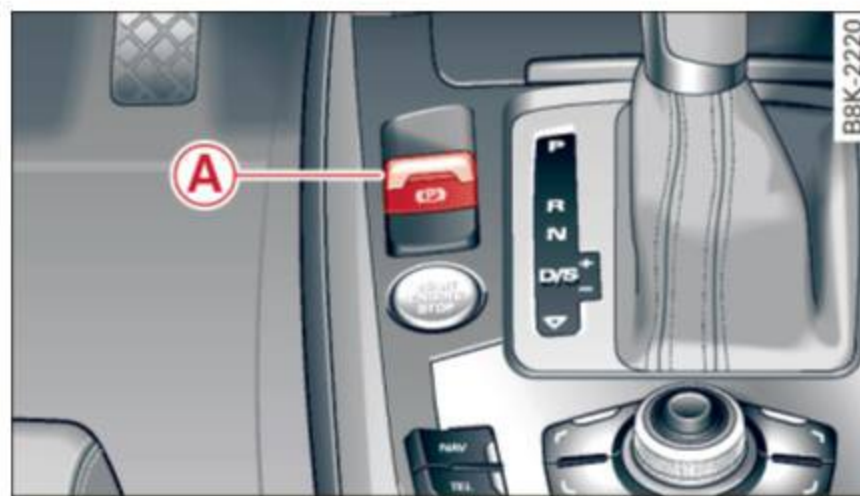

Fig. 80 Center console: Parking brake
- ▶ Pull on the switch **(A)** ⇒ *fig. 80* to apply the parking brake. The indicator lights in the switch and **PARK BRAKE** (USA models)/**(P)** (Canada models) in the instrument cluster illuminate.
- ▶ Pull the switch **(A)** ⇒ page 75, fig. 80 to set the parking brake.
- ▶ Pull the switch **(A)** ⇒ page 75, fig. 80 to apply the parking brake.
- ▶ Keep the switch  ⇒ page 75, fig. 80 pulled and depress the accelerator. The parking brake stays applied and prevents the vehicle from rolling backward.
- ▶ In an emergency, pull the switch  ⇒ page 75, fig. 80 and continue to pull it to slow your vehicle down with the parking brake.